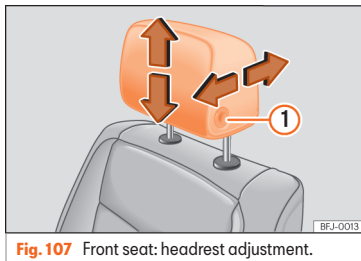
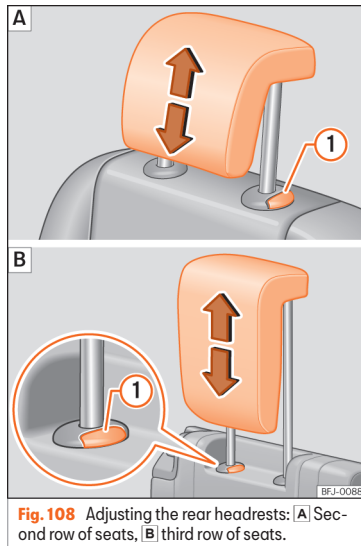

Fig. 107 Front seat: headrest adjustment.
Fig. 108 Adjusting the rear headrests: **A** Second row of seats, **B** third row of seats.
- Move the headrest up or down in the direction of the corresponding arrow. Regarding the rear headrest, to both raise and lower, press the button »» **Fig. 107** ⓘ; for the rear headrests it is only necessary to press the button »» **Fig. 108** ⓘ to lower them »» ⚠ in Introduction on page 132.
- Move the head restraint forward or back in the direction of the corresponding arrow while pressing the button » Fig. 107 ①.